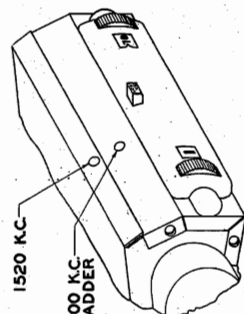

FIG. 4
R.F.: The tuning control is rotated until the condenser plates are completely out of mesh (1520 K.C.). Set the signal generator to 1520 K.C. Adjust the 1520 K.C. trimmer shown in Fig. 4 for maximum response.
Reset the signal generator to 800 K.C. and rotate the tuning control until a signal is heard. The condenser gang is then rocked slightly while adjusting the 800 K.C. podder (see Fig. 4) to maximum reading on the output meter.